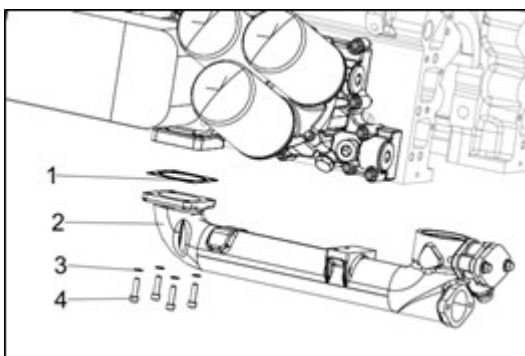

Figure 150
3. Remove the oil cooler inlet pipe, loosen the fixed bolts (Fig 150, item 4) and take the washer (Fig 150, item 3), remove the water inlet pipe, pay attention to the gasket (Fig 150, item 1).